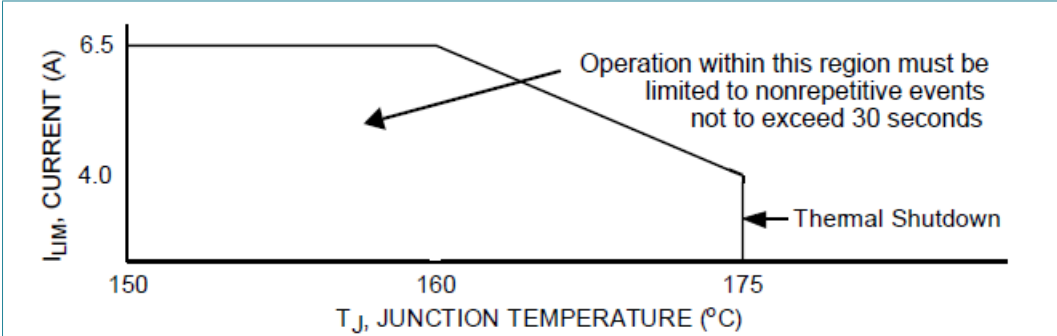
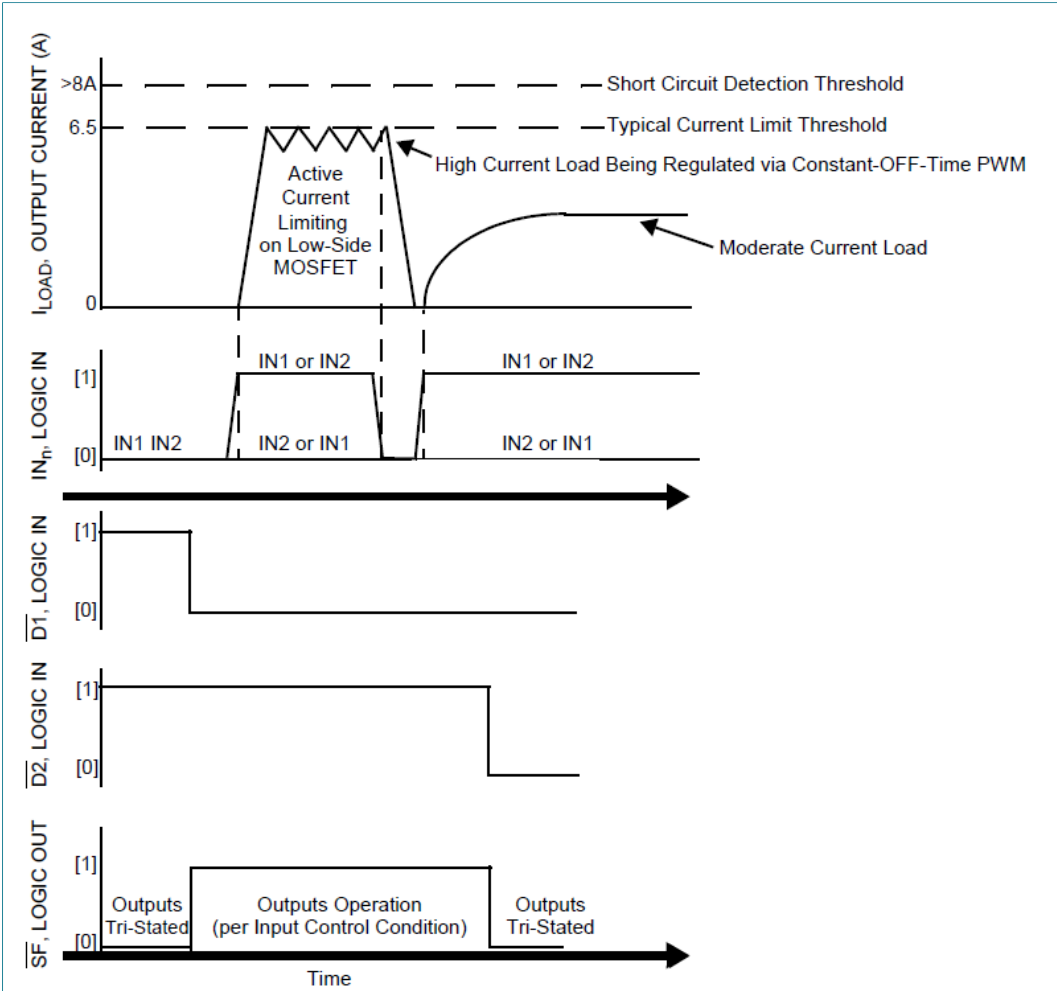

Figure 9. Active current limiting versus temperature (typical)
Figure 10. Operating states
- [5] Load currents ramping up to the current regulation threshold become limited at the I_{LIM} value. The short-circuit current possess a di/dt that ramps up to the I_{SCH} or I_{SCL} threshold during the I_{LIM} blanking time, registering as a short-circuit event detection and causing the shutdown circuitry to force the output into an immediate 3-state latch OFF. See Figure 10 and Figure 11. Operation in current limit mode may cause junction temperatures to rise. Junction temperatures above $\sim 160\text{ }^{\circ}\text{C}$ causes the output current limit threshold to progressively foldback, or decrease with temperature, until $\sim 175\text{ }^{\circ}\text{C}$ is reached, after which the T_{LIM} thermal latch OFF occurs. Permissible operation within this foldback region is limited to nonrepetitive transient events of duration not to exceed 30 seconds. See Figure 9.
The current limiting threshold value is dependent upon the device junction temperature. When $-40\text{ }^{\circ}\text{C} \leq T_J \leq 160\text{ }^{\circ}\text{C}$, I_{LIM} is between 5.2 A to 7.8 A. When T_J exceeds 160 °C, the I_{LIM} current decreases linearly down to 4.0 A typical at 175 °C. Above 175 °C the device overtemperature circuit detects T_{LIM} and overtemperature shutdown occurs (see Figure 9). This feature allows the device to remain operational for a longer time but at a regressing output performance level at junction temperatures above 160 °C.